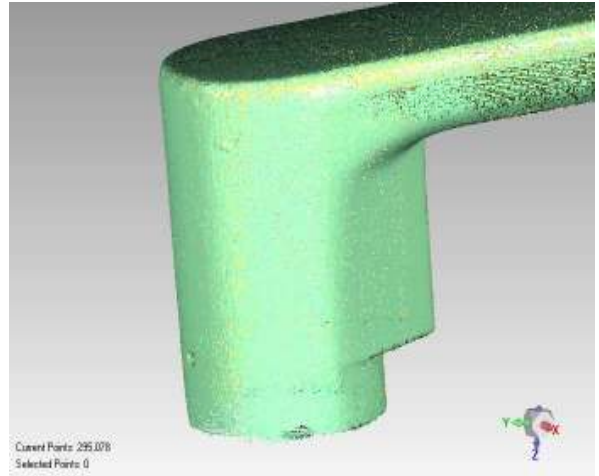

Figure 52
- **Rotate** and **Zoom** close to your point object, similar to **Figure 52**.